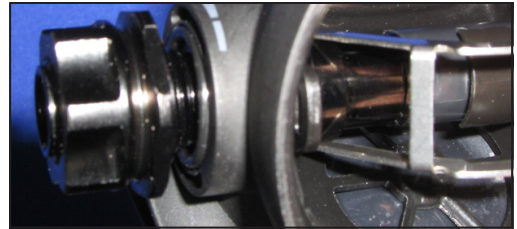

Fig. 3
9. Remove the **NUT RETAINER (17, 47)** by unscrewing it counter-clockwise. Remove the **O-RING (15)** and discard. (Fig. 3)